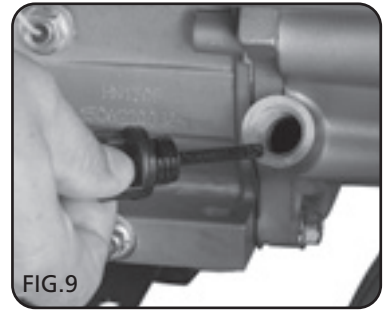

FIG.9
2. Remove the oil filter cap (12) by rotating the cap anti-clockwise and inspect to see the oil level (Fig.9).
**NOTE:** Do not screw in the oil filter cap (12) when checking oil level, simply insert and pull the cap straight out.